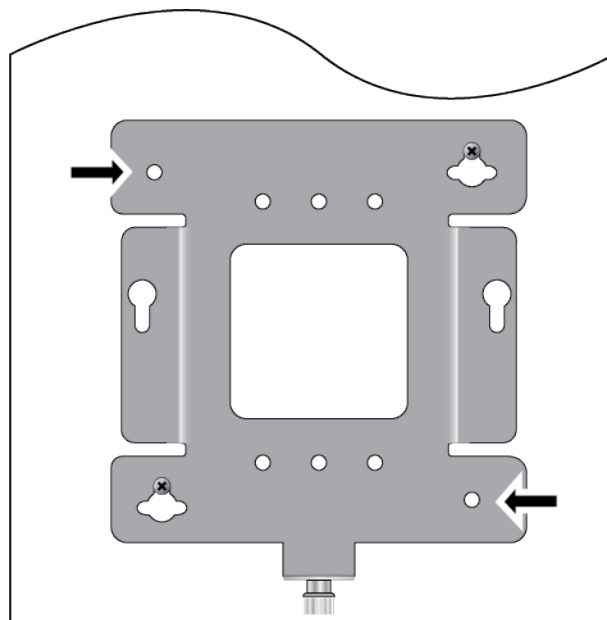

Figure 16. Pre-Drill Holes on Mounting Bracket
8. To secure the mounting bracket, pre-drill holes through the two bracket mounting holes opposite the key-hole slots. See Figure 16.